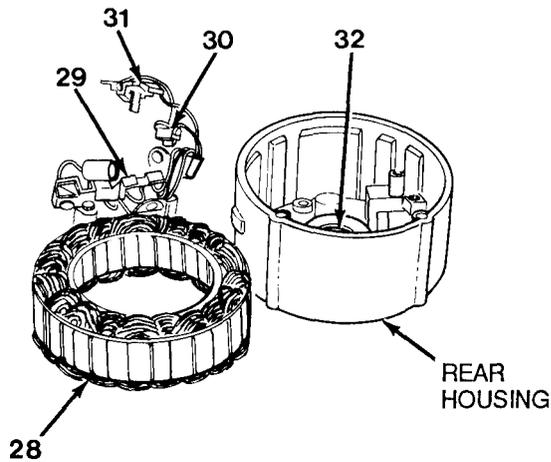

Figure 10-9
12. Remove rear bearing retainer (32, Figure 10-9), if necessary, from rear housing.